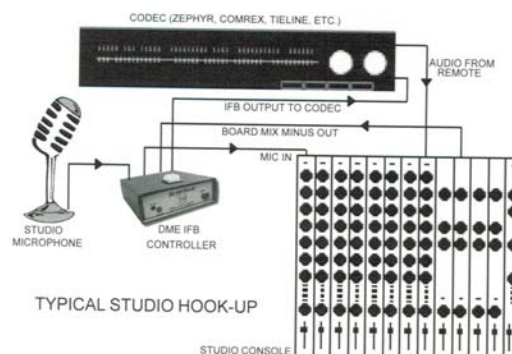

Fig. 1
1. Connect the main microphone XLR connector to the "MIC IN" connector and connect the "MIC OUT" to your control board microphone input. Connect a mix-minus feed from your control board to the "Mix Minus In" XLR connector and the "OUTPUT" XLR connects to the send input (towards the remote) on the Codec. Refer to Fig. 1